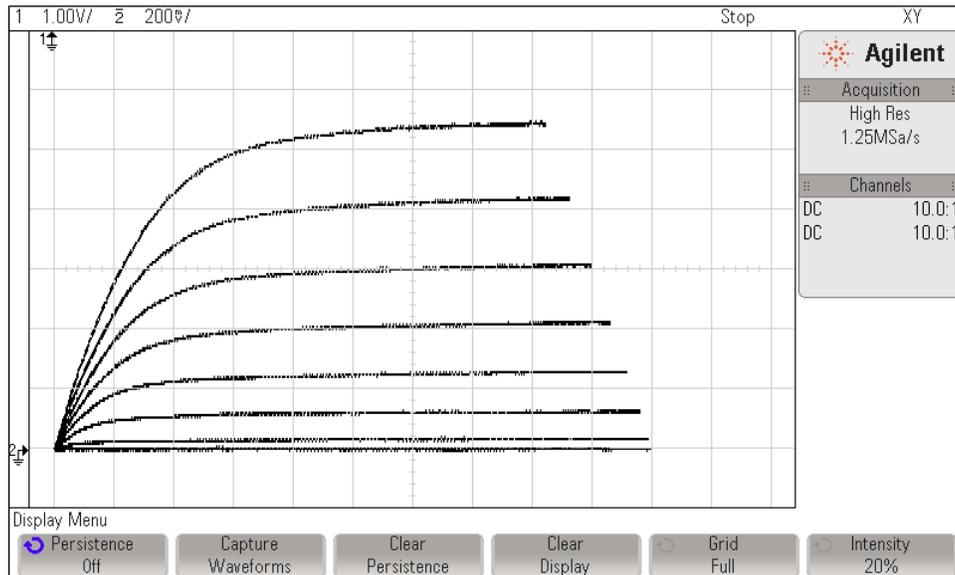

Figure 7. Family of Curves.
12. Adjust the power supply so that $V_{GS} = -1V$ (reverse the power supply leads to obtain a negative voltage). The display on the oscilloscope should be close to what is shown in Figure 7.